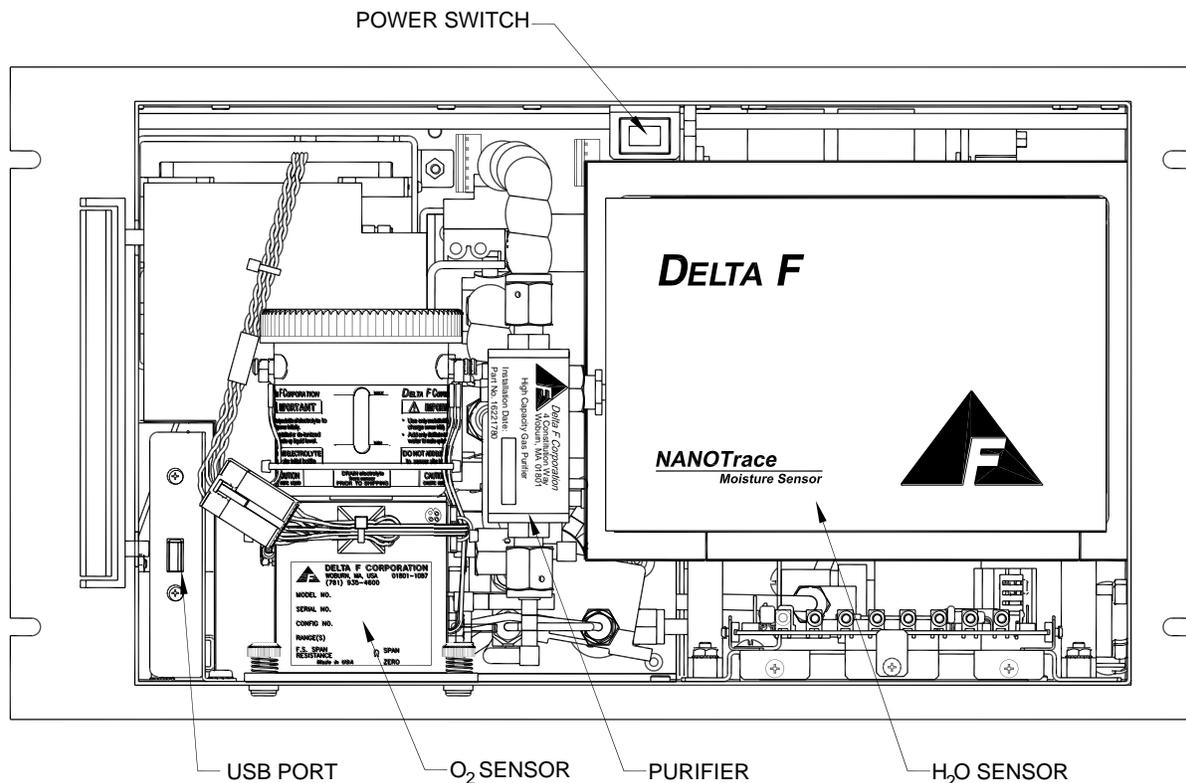
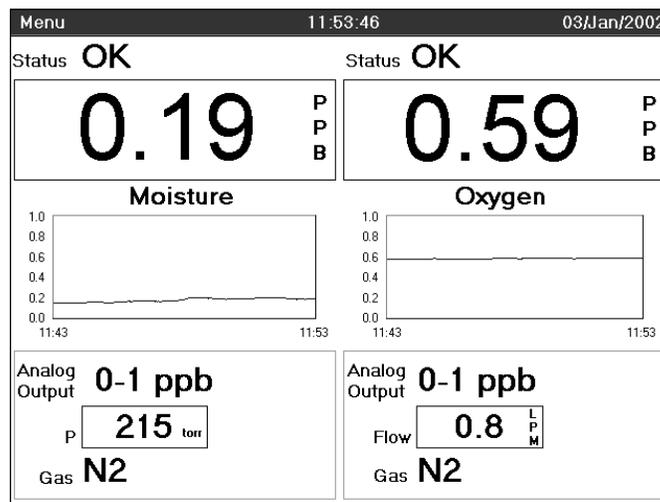

Figure 2: Major Internal Components
Figure 6: Data Display Screen
2. Locate the oxygen sensor (see Figure 2) and remove the gold cap from the top.
Open the door and turn on the power using the main power switch inside the analyzer. See Figure 2. The pump, if equipped, should turn on (see page 26) and the analyzer will undergo a series of Diagnostic Procedures while the various startup screens are displayed. Next, the Servomex logo is briefly displayed and then the data displays appear with the “Warming Up” screens flashing. The warm up process takes approximately six to nine minutes after which the display will look similar to Figure 6 (values shown are only representative). It is important to note that the ultimate warm up time may take as much as 90 minutes depending on the conditions.